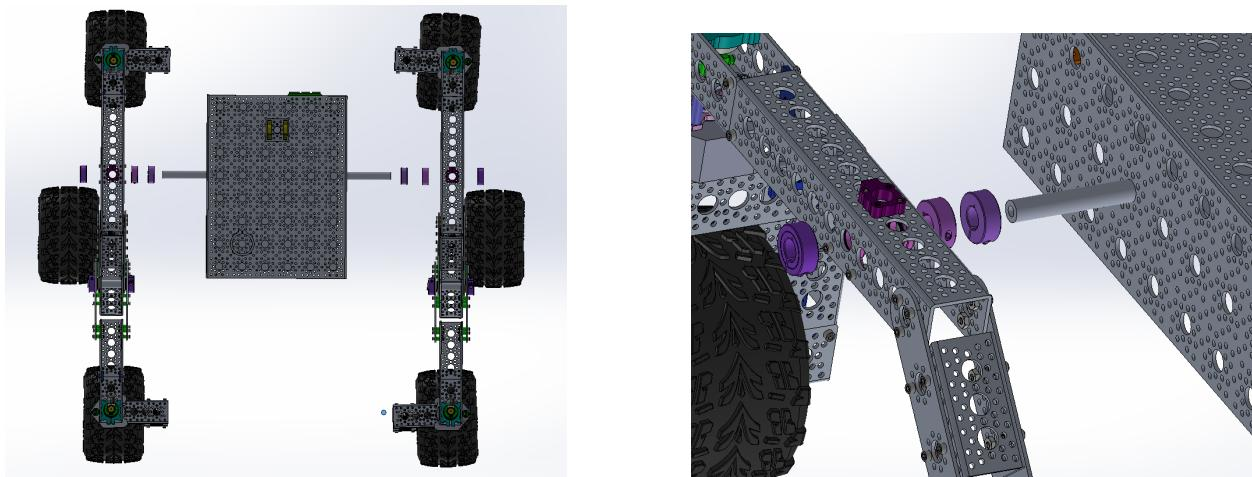

Figure 7: Mounting Body to Rocker-Bogie
1. Mount the main body of the rover to the two separate rocker-bogie legs using 15 inch aluminum rod **S16A** and collar clamps **S22** as shown in Figure 7. Make sure to maintain the order of the collar clamps shown in Figure 7 to fully lock all assemblies along the rod. The rod will go through the pillow
blocks on each rocker-bogie leg, and it should pass through the 4th from the back and 2nd up hole on the body as shown in Figure 7.